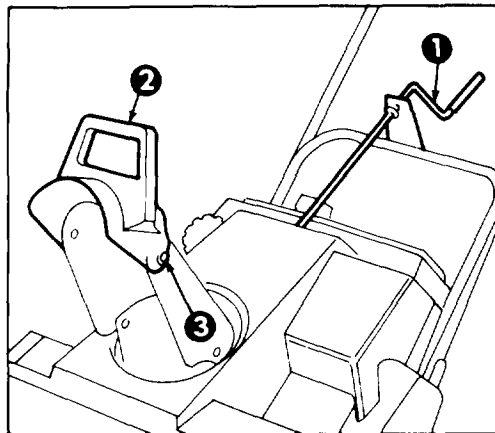

Figure 8
OPERATING TIPS (Fig. 8)
1. ADJUSTING DISCHARGE CHUTE—Rotate chute crank clockwise to move discharge chute to the right and counterclockwise to move chute to the left. Deflector handle on top of discharge chute is used to control the height of the snow stream. Do not over tighten deflector mounting nuts (Fig. 8) so excessive force is